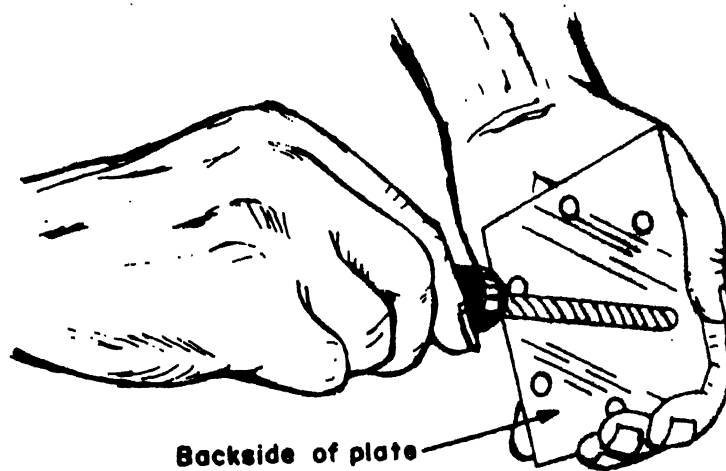

FIGURE 12
- c. GENTLY, twist by hand, as necessary, to remove burrs from edge of each hole. See figure 12.